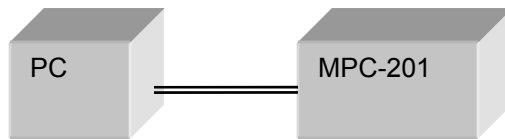

Figure 28 Direct connection: MPC-201 to PC
- a) Static IP: the administrator assigns the instrument a fixed IP address. In this mode the instrument can be directly connected to the control PC, as shown in Figure 28. For this configuration, a cross-linked network cable must be used.